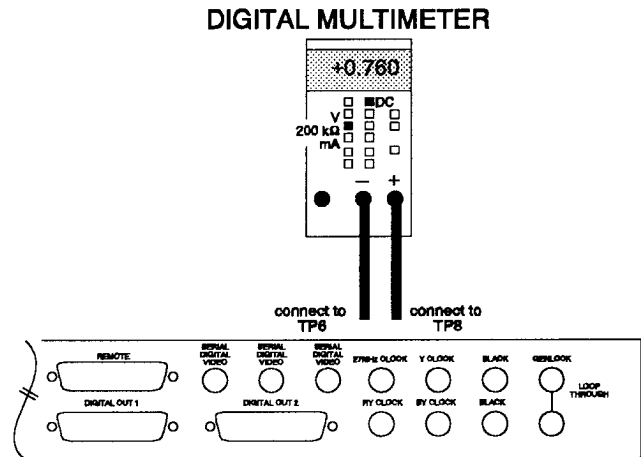

Fig. 5-20. Setup to calibrate the output levels (R39).
- Connect the "-" probe from the digital multimeter to TP6 (-5 V) and the + probe to TP8 as shown in Fig. 5-20.